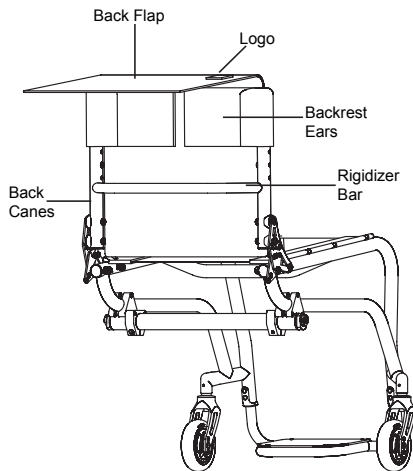

Figure 54
1. Lift the back flap to expose the backrest ears. See Figure 54.